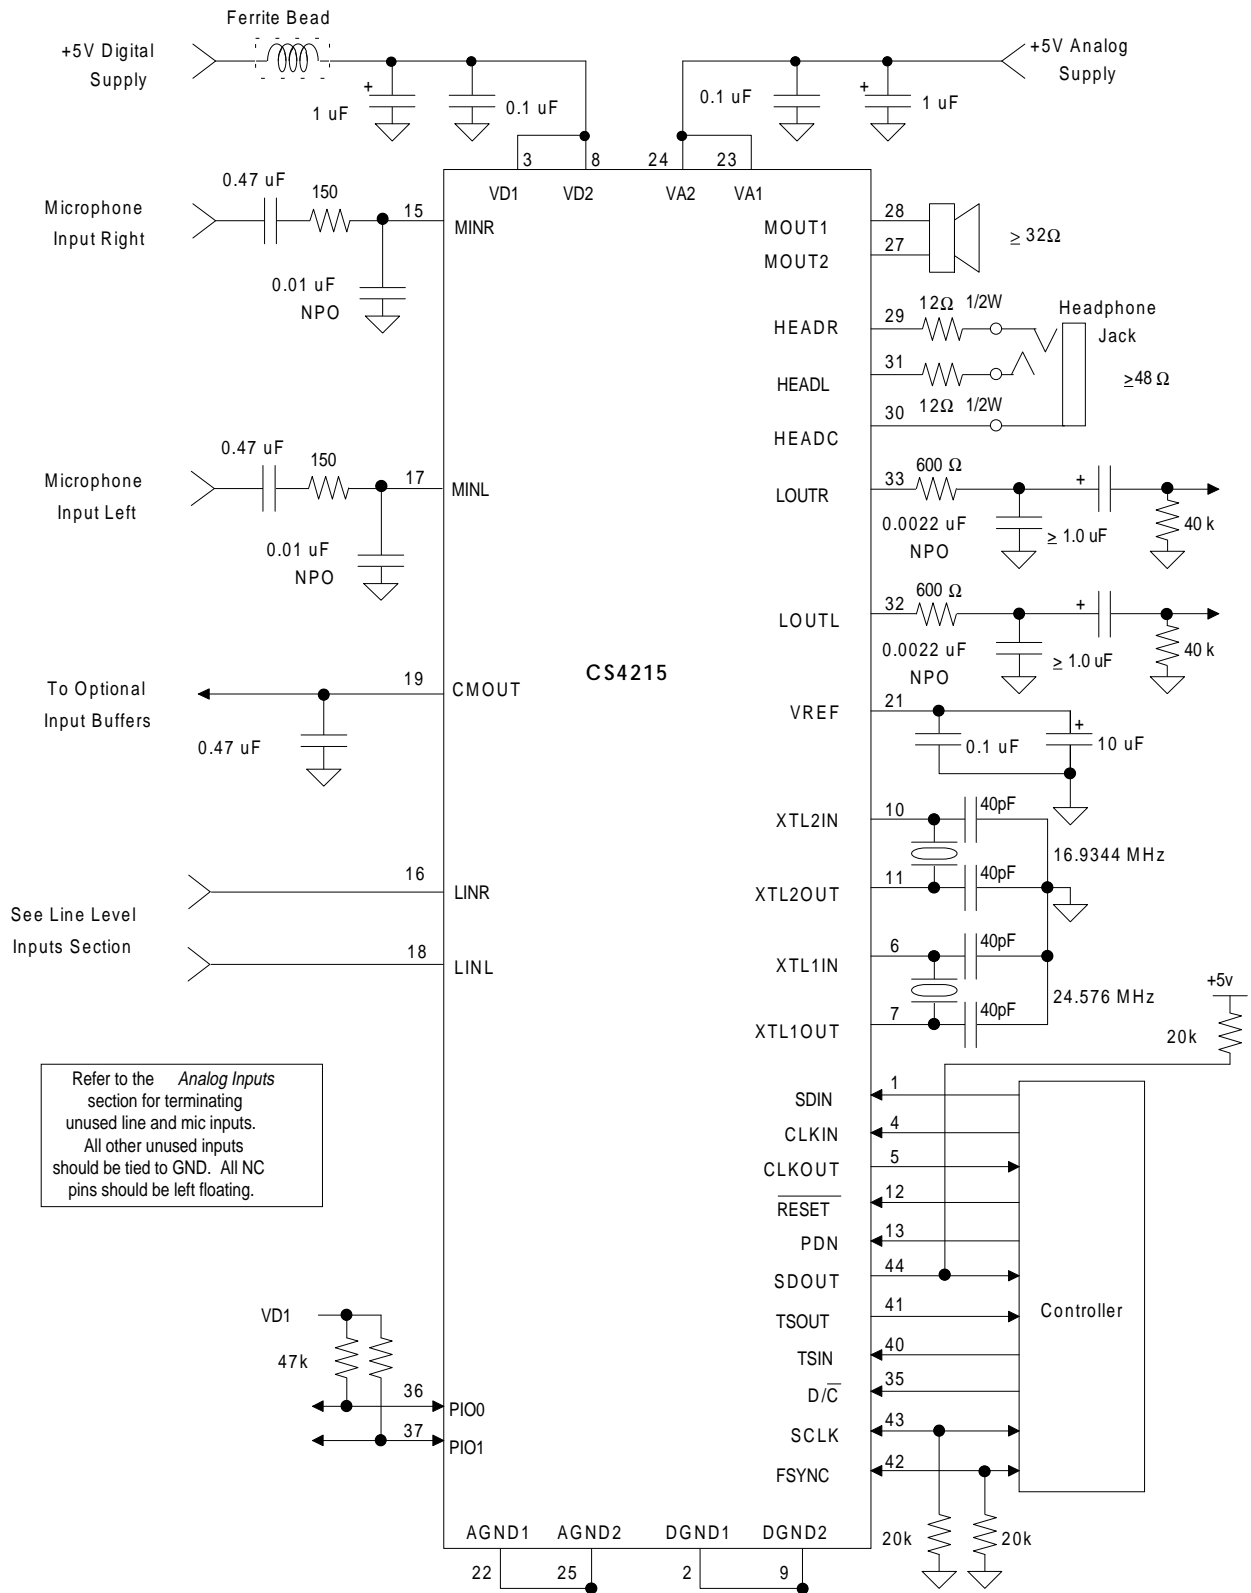

Figure 1. Recommended Connection Diagram
Figure 1, the recommended connection diagram, shows examples of the external analog circuitry recommended around the CS4215. An internal multiplexer selects between line level inputs and microphone level inputs.
LOUTR and LOU TL output an analog signal, centered around the CMOUT voltage. The minimum recommended load impedance is 8 k Ω . Figure 1 shows the recommended 1.0 μ F DC blocking capacitor with a 40 k Ω resistor to ground. When driving impedances greater than 10 k Ω , this provides a high pass corner of 20 Hz. These outputs may be muted.
Two external crystals may be attached to the XTL1IN, XTL1OUT, XTL2IN and XTL2OUT pins. Use of an external crystal requires additional 40 pF loading capacitors to digital ground (see Figure 1). XTAL1 oscillator is intended for use at 24.576 MHz and XTAL2 oscillator is intended for use at 16.9344 MHz, although other frequencies may be used. The gain of the internal inverter is slightly higher for XTAL1, ensuring proper operation at >24 MHz frequencies. The crystals should be parallel resonant, fundamental mode and designed for 20 pF loading (equivalent to a 40 pF capacitor on each leg). If XTAL1 or XTAL2 is not selected as the master clock, that particular crystal oscillator is powered down to minimize interference. If a crystal is not needed, the XTL-IN pin should be grounded. An example crystal supplier is CAL Crystal, telephone number (714) 991-1580.